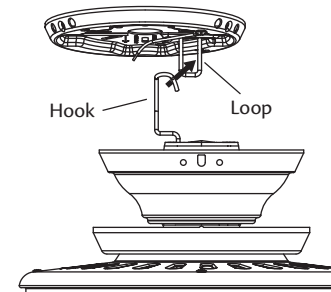

**Figure 10 - Assembling the downrod**
- Screw the downrod into the fan assembly until tight. **IMPORTANT!** Tighten downrod set screw as shown in Figure 10.